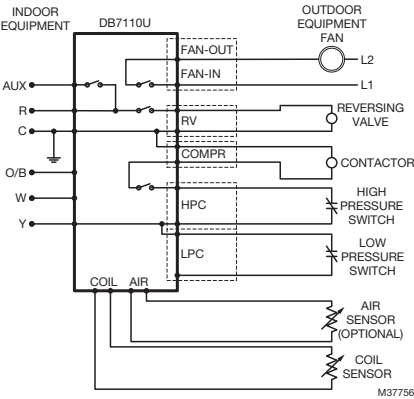

Fig. 5. Wiring diagram with pressure switches connected to defrost control.
5. Reference the wiring diagrams in Figs. 5 to 8 to aid in proper appliance wiring.